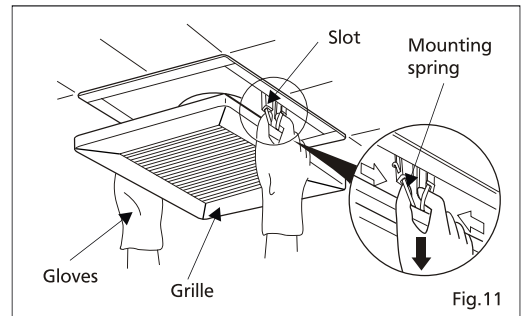

Fig.11
- Remove grille. (Squeeze mounting spring and pull down carefully) (Fig.11).